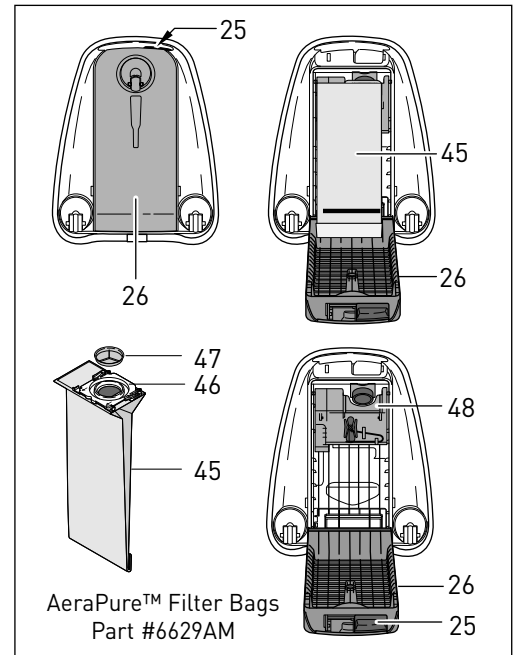

Figure 17
## Changing the Filter Bag - Figure 17
To change the filter bag (45), set the canister upright (as shown in figure 17), press the cover release catch (25) and lower the filter bag cover (26). Grasp the green filter bag sealing plate (46), slide the plate from the holder (48) and push the filter bag cap (47) on to seal the bag. Slide the sealing plate (46) of a new bag into the bag holder slots (48) and push it in firmly until it locks into place. Close the cover, making sure it snaps shut completely. You may find it convenient to store the bag cap inside the filter bag housing below the filter bag. Do not re-use the filter bags. Note: the nature of the contents of the filter bag will affect the point at which it needs changing. Fine dust may require an earlier change even though the bag is not full. Fluff or hair allows air to pass through easily, so the filter bag may overfill before the amber "bag full" light illuminates.
## Changing the Pre-motor Microfilter - Figures 17 & 19
After 10 to 20 bags have been used, change the pre-motor microfilter (52). To remove the microfilter, set the canister upright (as shown in figure 17). Press the cover release catch (25) and lower the filter bag cover (26). Remove the filter bag, then remove the cover by sliding it up and out of the grooves (53). Pull the old filter out (52) and slide the new filter into the same position. Replace the filter bag, then re-insert the cover by fitting the tabs into the grooves (53) on both sides and sliding it in and down. Push the cover closed, making sure it snaps shut completely.
Remove hose (10) from vacuum cleaner (see figure 22), open the filter bag cover and remove the filter bag. (figure 17, page 12). Clean out entrance to bag (58).